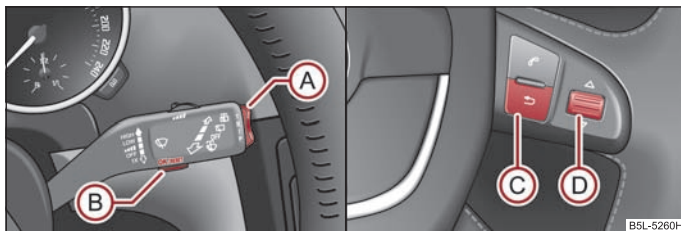

Fig. 20 Information display: Controls on the windshield wiper lever/controls on the multifunction steering wheel
- You can activate the **Main Menu** by pressing the rocker switch (A) ⇒ fig. 20 for more than 1 second.
- You can select individual menu points by means of the rocker switch (A). When the pushbutton (B) is briefly pressed, the information you have selected is displayed.
- You can activate the **Main menu** by pressing the rocker switch (C) ⇒ fig. 20 for more than 1 second.
- By briefly pressing the (C) button you will reach one level higher.
- You can select the individual menus by pressing the handwheel (D). After briefly pressing the handwheel (D), the desired menu is indicated.